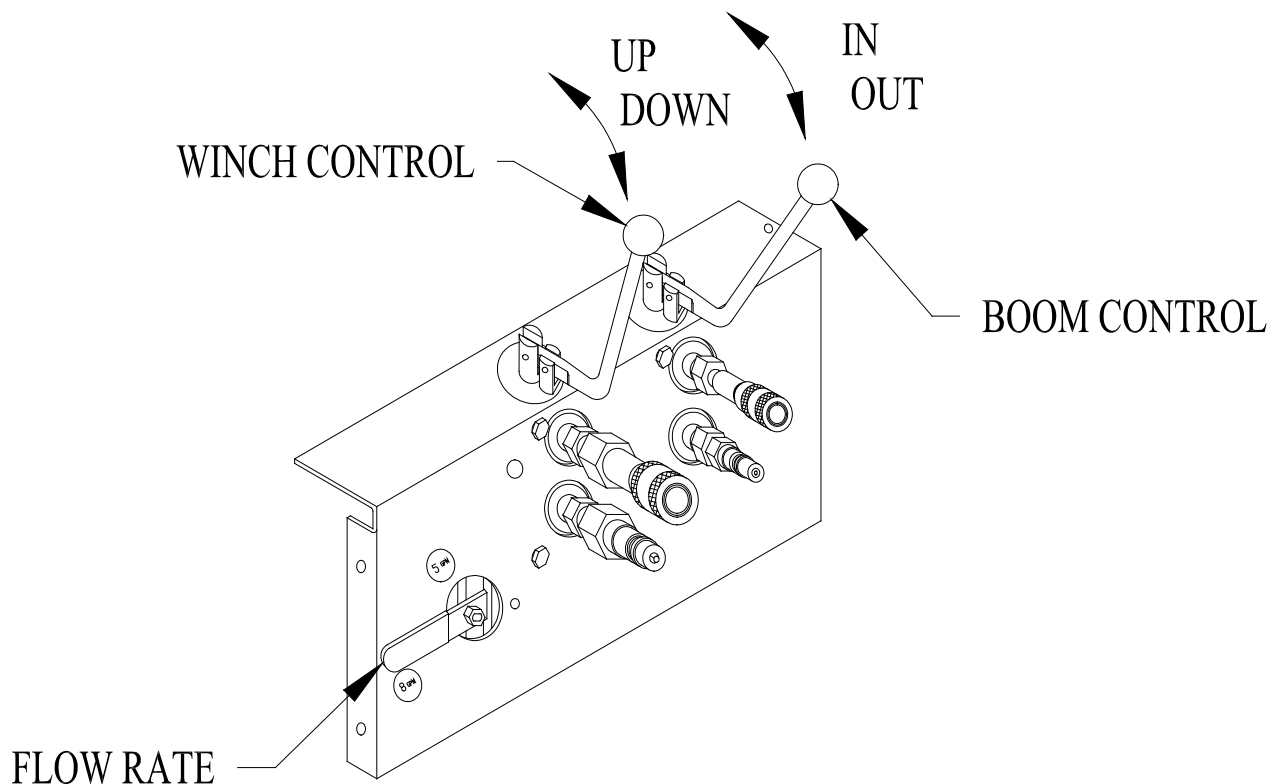

Figure 4-1.
1. The 5/8 lever provides an output of either 5 or 8 GPM. See Figure 4-1. This selection allows the hydraulic winch to operate at two different speed ranges. Within these ranges, engine speed can be varied to further adjust hoisting speeds. Speeds vary to about 165 fpm with a single part of line. A speed of up to 80 fpm occurs when using the HS2000 with two parts of line. As wire rope is wound onto the drum, the effective drum diameter increases which increases lifting speed and decreases lifting capacity.
5. Pull winch control lever up to raise a load and down to lower a load. See Figure 4-1. Never allow anybody to ride on the hoist. Make a few “dry runs” (without load, but **with** ballast) to become familiar with operation, controls, and HydraPak, and to test hoisting clearance. Always maintain 10-20 pounds of wire rope tension with a cable weight. Do **NOT** attempt to make any equipment adjustments during operation.
7. Use the boom control lever shown in Figure 4-1 to swing the boom 135° to load or unload material on the roof deck where you are working.